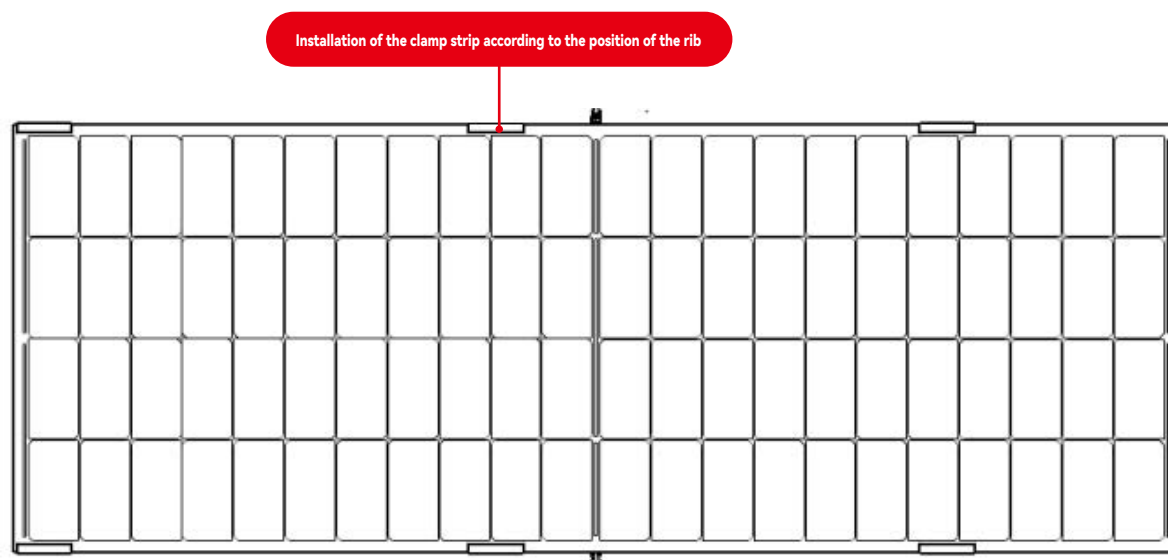

FIGURE 9
⑦ Install the clamp strip onto the product according to the site clamp arrangement (Figure 9), after the installation is completed, put the product onto the clamp and adjust the product position, the edge of the short side of the product should be  $12\pm 3\text{mm}$  away from the edge of the square rib (Figure 10), the contact distance between the long side and the clamp should be  $\geq 12\text{mm}$  (Figure 11). Also, gently roll and press the front side of the product at the adhesive application area to ensure full bonding of the product's backside with the structural adhesive.